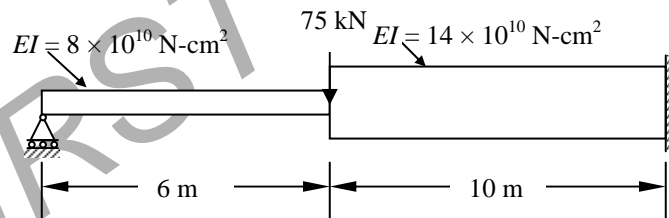

Fig. 1
3. For the beam shown in fig. 1, determine the beam deflection and member end loads. [16]